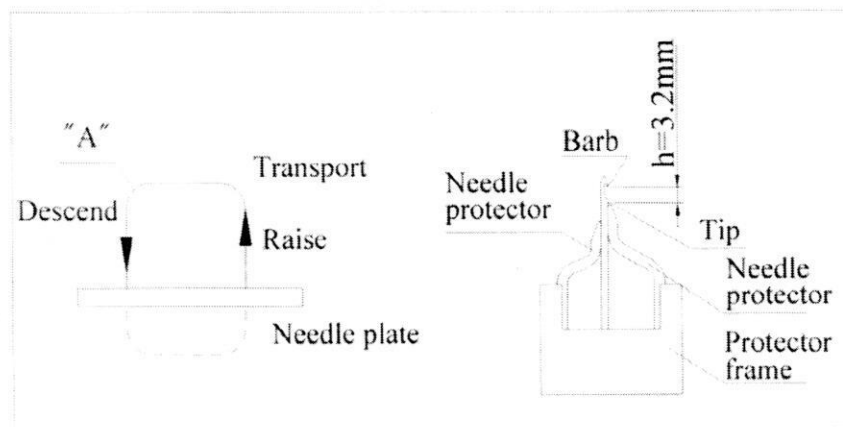

Fig.5
4.5 Position setting of the eccentric cam of needle protector movement (Fig.5)
Turn the handwheel by hand till the needle transporting is finished and the hook needle begin to descend ("A" point as shown in Fig.5). At this time, the barb of hook needle is higher than the tip of needle protector about 3.2mm.